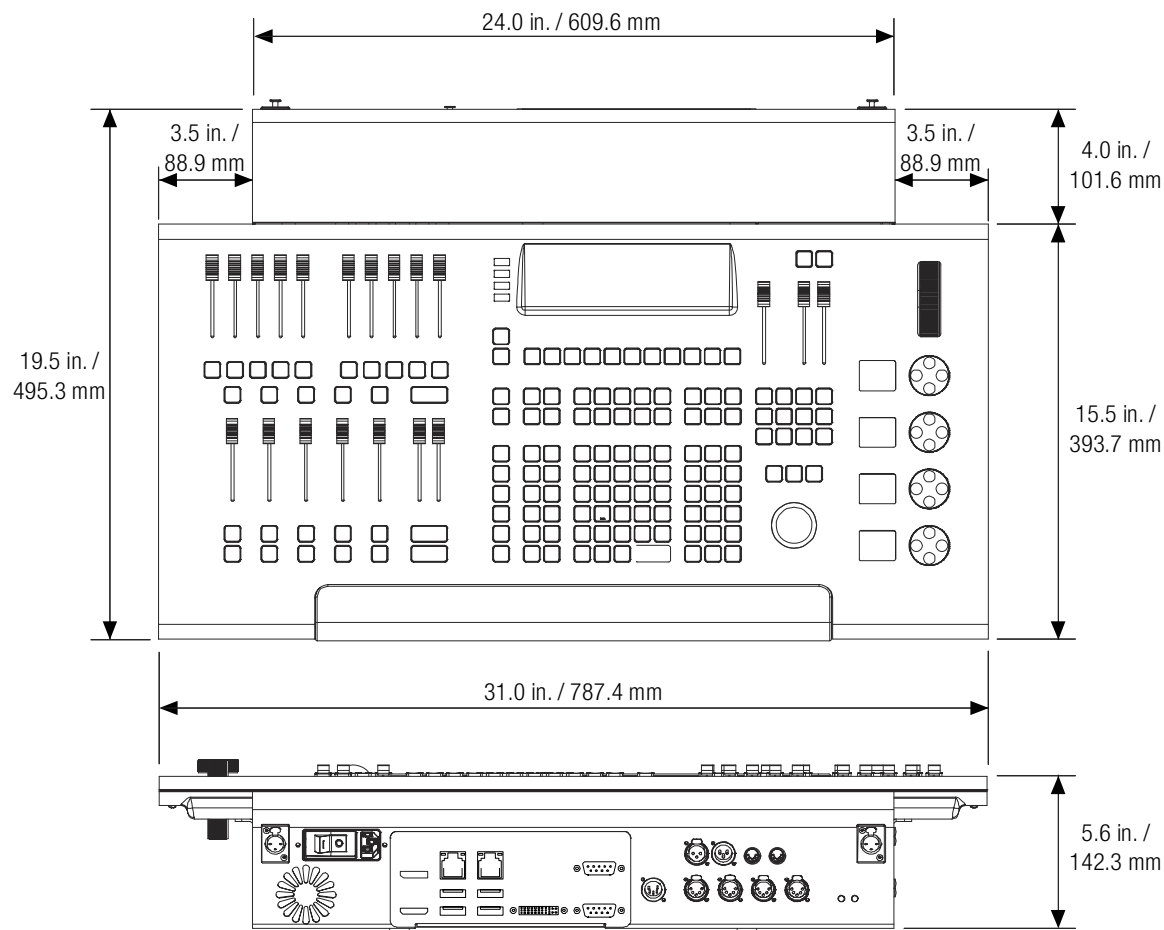

**Figure 2: NEO Lighting Control Console Connections**
**Figure 2** shows the features and controls of the NEO Lighting Control Console. Refer to the documentation supplied on the console USB Key or on-line manual for additional information and operation.
- Step 2. Connect AC input cable to AC Input connection on console (refer to **Figure 2 on page 7**).